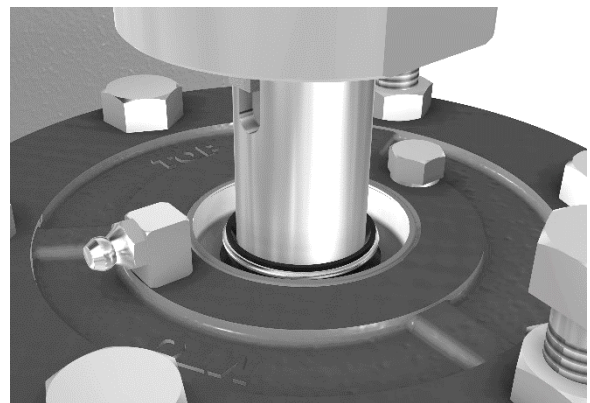

Figure 12-2: Lip Seal Orientation
6. Apply a light coating of bearing grease to O-ring (496). Install new O-ring (496) onto the bearing housing (134). Take care not to damage O-ring (496) on sharp edges.
7. Install lip seal (332A) into bearing housing (134). Lip seal (332A) should have lip facing outwards or the spring should be visible when installed. See Figure 12-2. Apply a light coating of bearing grease on the lip of the lip seal (332A)
8. Apply a thin layer of bearing grease to the outer diameter of bearing (112) and inner diameter of bearing housing (134). Slide bearing housing (134) over the shaft (122) and outboard bearing (112). Take extreme caution with the lip seal (332A) as it is very easy to pop out spring or damage lip seal (332A) when installing the bearing housing (134).
9. Install retaining ring (361A) into groove in bearing housing (134). Doing this locks the position of the bearing housing (134) with OB bearing (112). Retaining ring (361A) will have a flat side and a tapered side, ensure the flat side is face to face with the OB bearing (112) outer diameter.